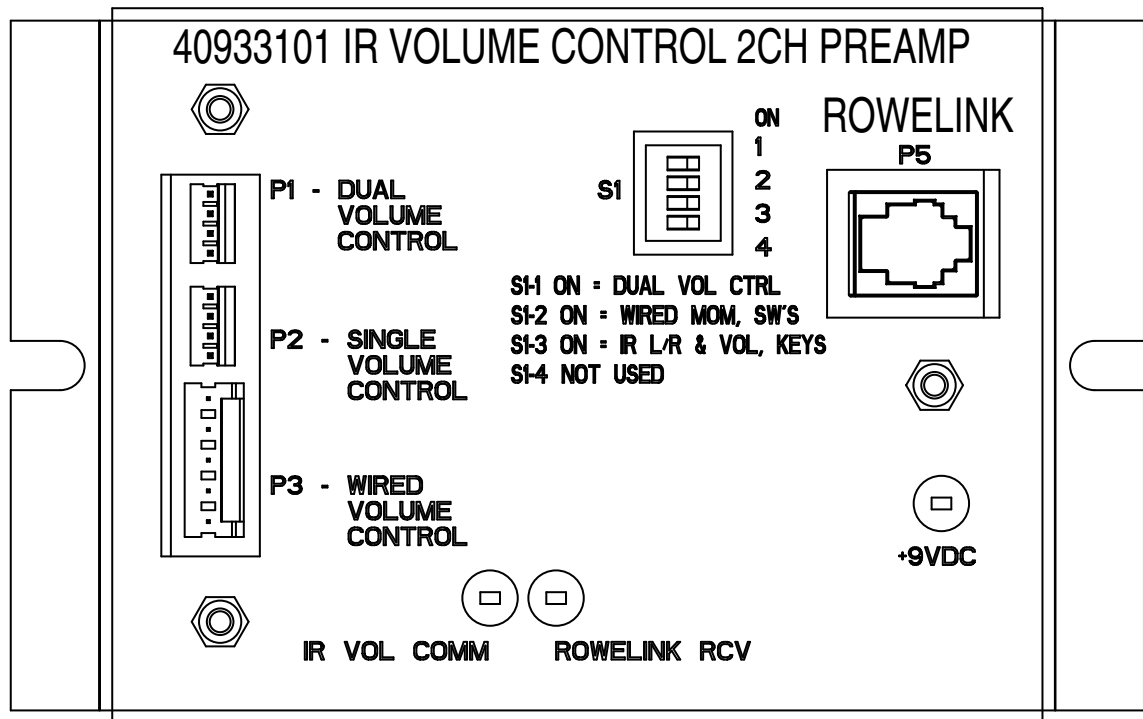

Figure 2-8B. IR Volume Control 2CH Preamp
- On 40933101 set all S1 DIP switches to OFF (refer to Figure 2-8B).
- On 40933101 set S1-1 DIP switch to ON and all others OFF (refer to Figure 2-8B).